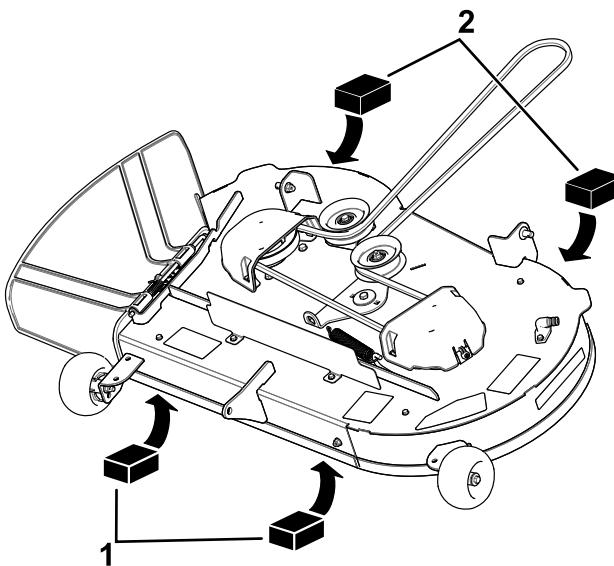
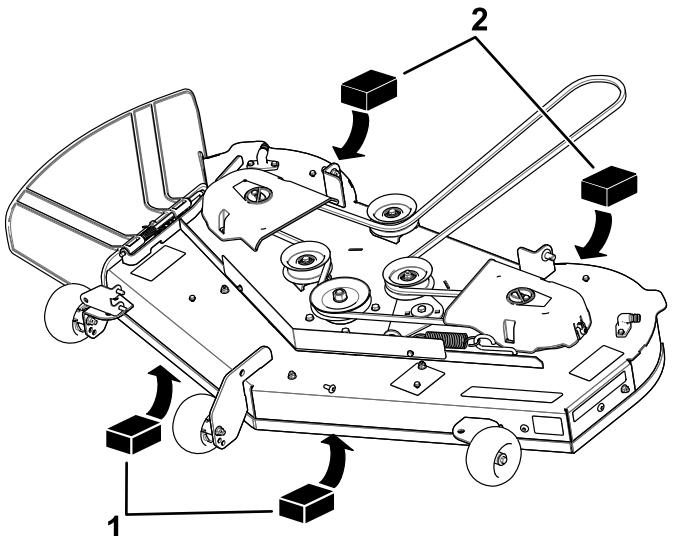

Figure 68
Figure 69
4. Place 2 blocks, each having a thickness of 6.6 cm (2-5/8 inches), under each side of the front edge of the deck but not under the anti-scalp roller brackets (Figure 68 or Figure 69).
5. Place 2 blocks, each having a thickness of 7.3 cm (2-7/8 inches), under the rear edge of the cutting deck skirt, 1 on each side of the cutting deck (Figure 68 or Figure 69).